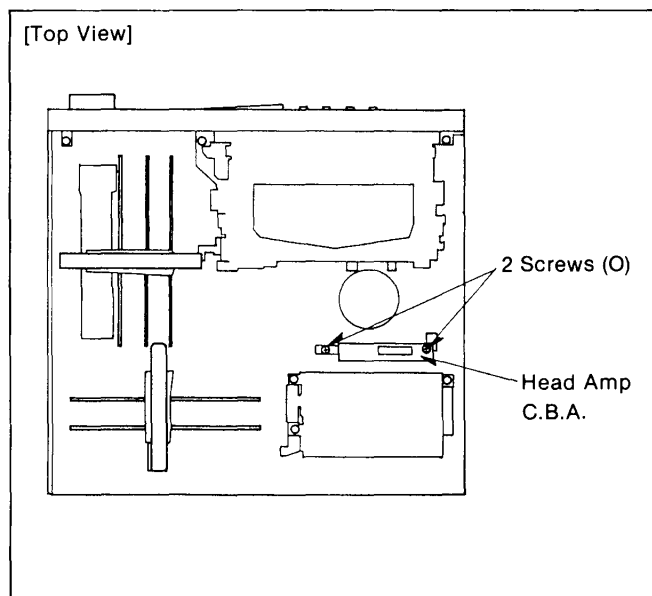

Figure D14
1. Unscrew the 2 screws (O) on the Head Amp C.B.A. (Figure D14).